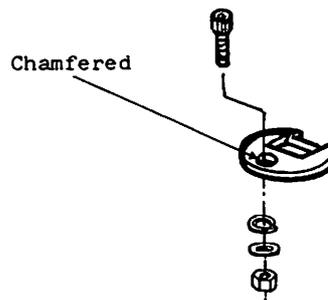

Fig. 4.2
(4) Put each one rubber pad into six holes in the table.
(5) Put each one hinge (A) into two recesses in the table and secure it with bolt and nut.
*Each hinge (A) should be placed with its chamfered surface faced up, as shown in Fig. 4.2.